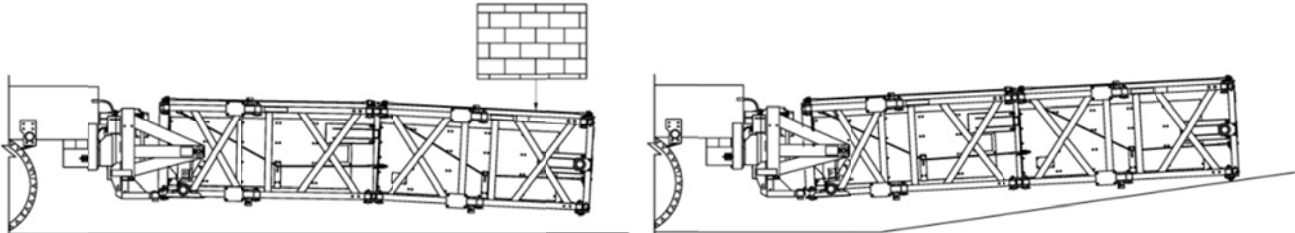

Figure 6
4. SS90™HD TMA has been shown to absorb an impact within the criteria of NCHRP-350 testing, and to support its own weight. Do not drag the TMA or place anything on its top: damage may result (See Figure 6). Do not sit, stand, or lean on any part of the TMA.